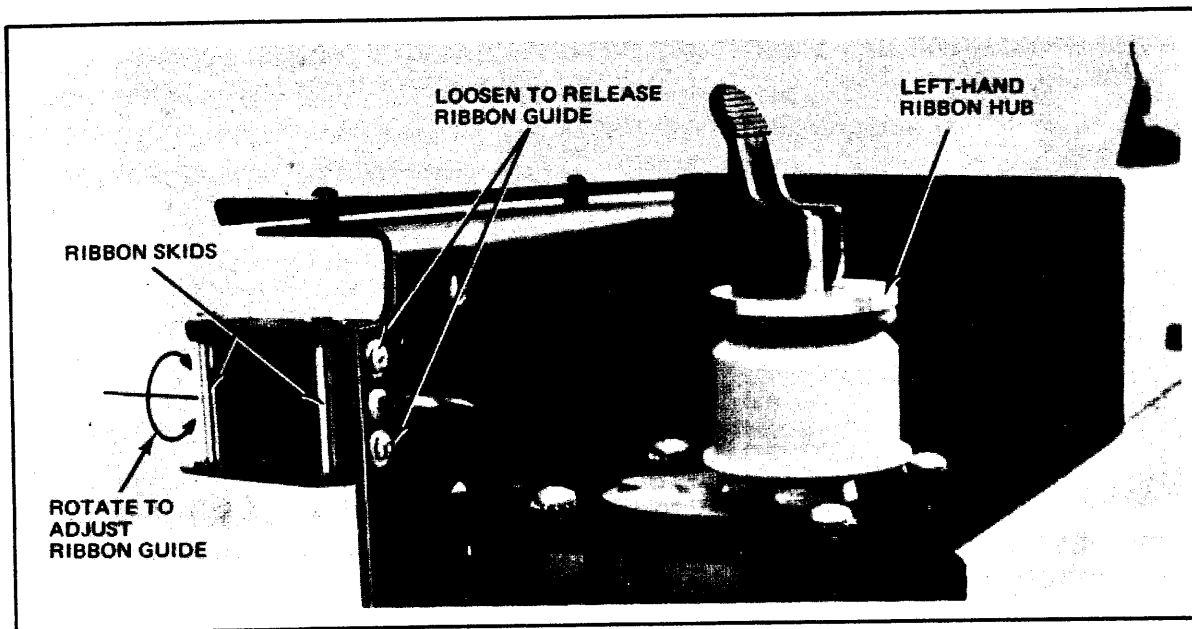

Figure 50 Adjusting Ribbon Guide
- f. If ribbon runs high or low on the guide, *slightly* loosen (but leave snug) the two screws that hold the ribbon guide (figure 50). Pivot the guide on its locating pin (on top of guide) so that the ribbon runs centered on the guide, then tighten the screws.